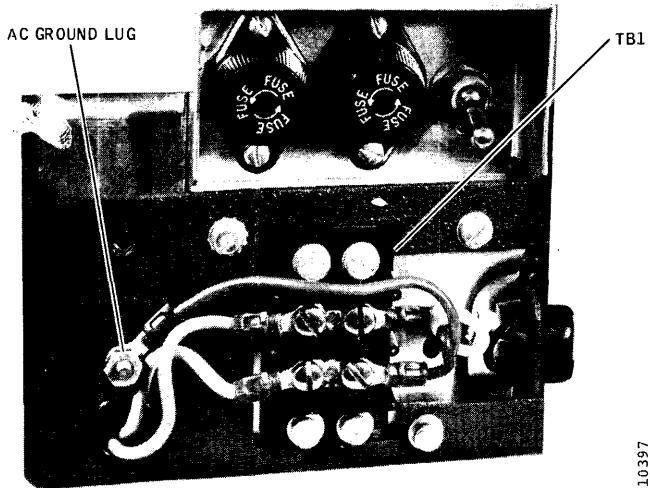

Figure 3-3. Power Cable Terminal Board TB1
- Uncoil the unit power cable, remove the cover from power cable terminal board TB1, and make sure that all three wires are connected as shown in Figure 3-3 and that the terminals are tight. Reinstall the cover.